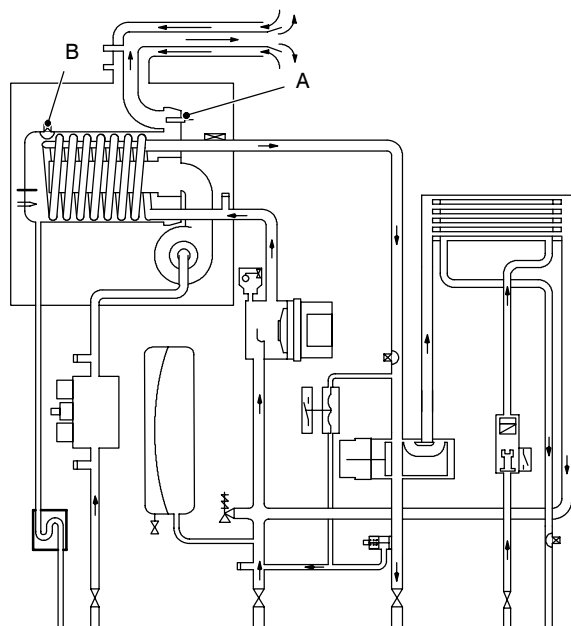
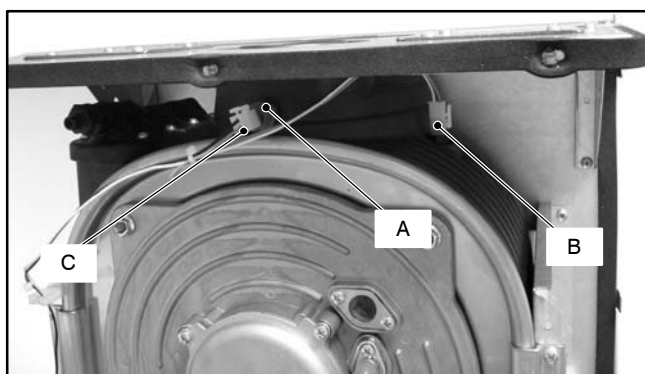

Fig. 20.1
Fig. 20.2
The Flue temperature probe NTC *A* in Fig. 20.1 and Fig. 20.2 senses the temperature of the combustion products that flow through the condensing heat exchanger.
A Safety thermal fuse *B* in Fig. 20.1 – Fig. 20.2 is also connected in series with the Flue temperature probe
- 3 Unscrew and remove the flue temperature probe *A* (Fig. 20.2) from the condensing heat exchanger.